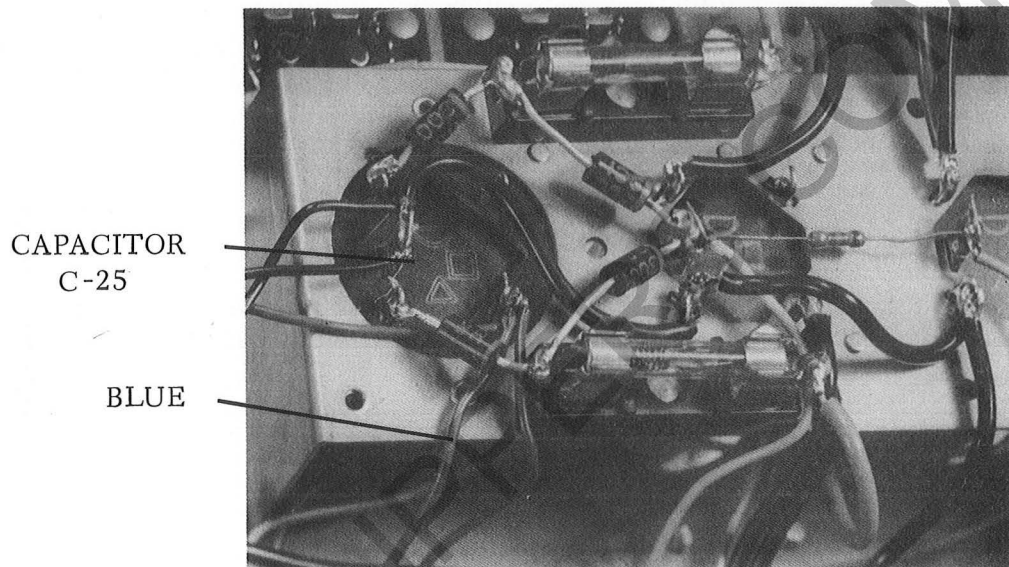

Figure 5.
- d. Connect and solder BLUE wire to CAPACITOR C-25 as shown in Figure 5.